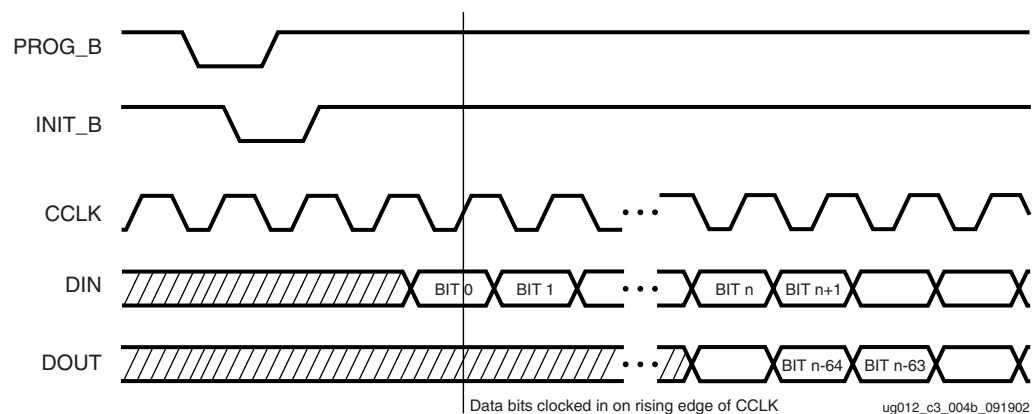

Figure 4-10: Serial Configuration Cloning Sequence
1. For Slave configurations, a free running CCLK can be used, as shown in Figure 4-10.